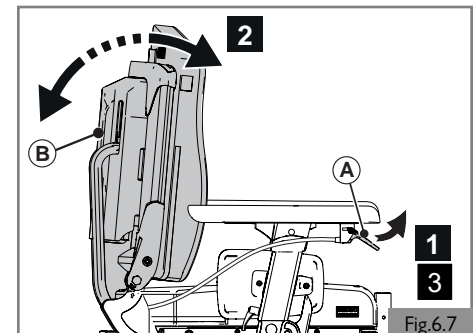

Fig.6.7
**6.4 Manual recline backrest (Fig. 6.7)**